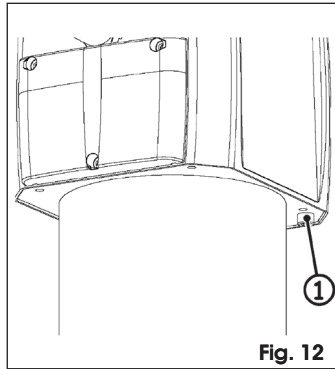

Fig. 12
10. Tighten the two rear screws (Fig. 12 ref. ①).